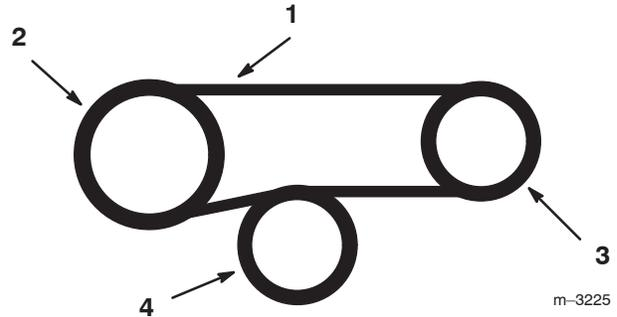

Figure 91
4. Install new PTO belt over clutch and route around gearbox pulley and above spring loaded idler (Fig. 91).